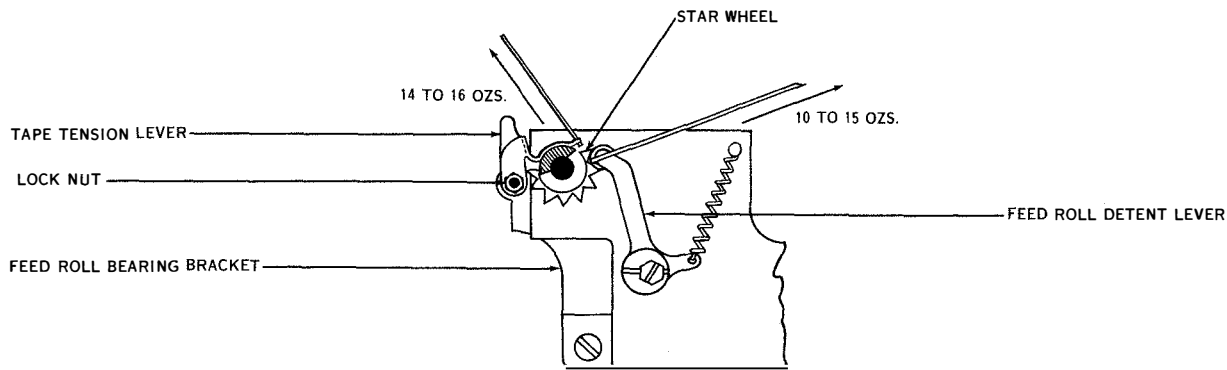

Figure 7-60. Tape Tension Lever Spring and Feed Roll Detent Lever Spring Tension
(69) TAPE TENSION LEVER SPRING. (See figure 7-60.)—A tension of 14 to 16 ounces should be required to start the slotted extension of the tape tension lever moving away from the feed roll. To check, hook a 32-ounce scale over the end of the slotted extension and pull at right angle to the lever. To adjust, rotate the tape tension lever stud clockwise or counterclockwise as required. Hold the stud in position and tighten the lock nut.
(76) FEED ROLL DETENT LEVER SPRING TENSION. (See figure 7-60.)—A tension of 10 to 15 ounces should be required to start the detent lever roller moving away from the star wheel. To check, hook a 32-ounce scale over the detent lever at the